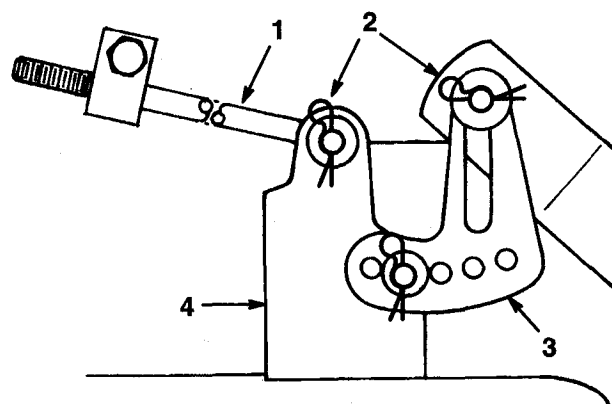

Figure 45
7. Slide the end of the long rod through the hole in the mower mount (Fig. 45). Install the washer and hair pin cotter to secure the rod in place. Repeat this step on the opposite side of the mower.
8. Mount the slotted mower leveling bracket onto the pin on the height-of-cut arm (Fig. 45). Install the washer and hair pin cotter to secure the mower. Repeat this step on the opposite side of the mower.